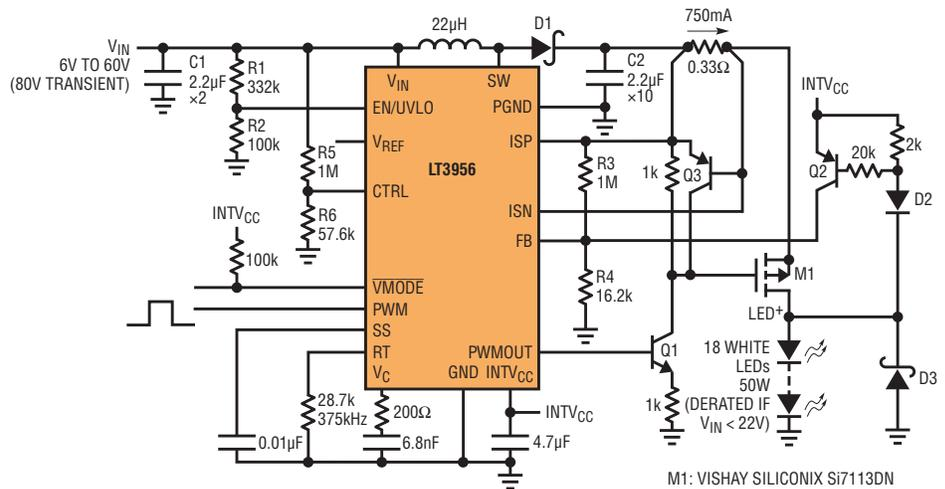
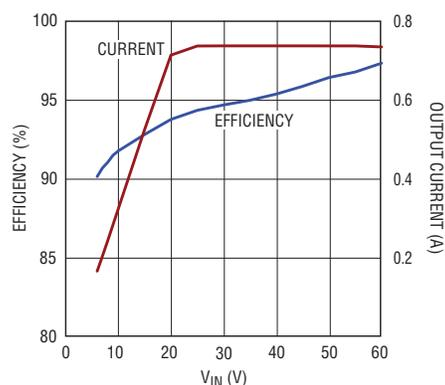

Figure 2. This 50W boost LED driver provides wide input range, PWM dimming and LED fault protection and reporting.
Figure 3. High 94% efficiency means less than 3W dissipation in the converter shown in Figure 2.
Figure 2 shows a 50W boost LED driver that operates from a 24V input, showing off some of the unique capabilities of this product when applied as an LED driver. This boost circuit tolerates a wide input range—from 6V to 60V. At the low end of this  $V_{IN}$  range, the circuit is prevented from operating too close to switch current limit by scaling back the programmed LED current as  $V_{IN}$  declines—set by the resistor divider ( $R_5$  and  $R_6$ ) on the CTRL pin. Figure 3 shows efficiency and LED current versus  $V_{IN}$ . The high efficiency (94%) means passive cooling of the regulator is adequate for all but the most extreme environmental conditions.
Pulse width modulation (PWM) of LED current is the preferred technique to achieve wide range dimming of the light output. Figure 2 shows a level shift transistor Q1 driving a high side disconnect P-MOSFET M1. This configuration allows PWM dimming with a single wire
The boost circuit in Figure 2 uses the voltage feedback (FB) input in a unique fashion—protecting the LED+ node from a fault to GND while preserving all the other desirable attributes of the LED driver. A standard boost circuit has a direct path from the supply to the output, and therefore cannot survive a GND fault on its output when the supply current is not limited. There are a number of situations where one might desire to protect the switching regulator from a short to GND of the LED anode—perhaps the luminary is separated from the driver circuit by a connector or by a long wire, and the input supply is a high capacity battery.